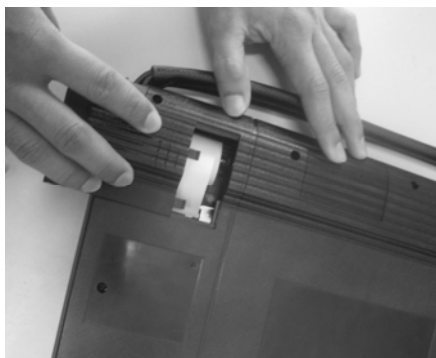

Figure 1-05e.
MINIPRINTER uses heat sensitive paper with size of $\Phi 30 \times 57\text{mm}$ (internal hole $\Phi 7\text{mm}$). Refer to Figure 1-05a to Figure 1-05e for mounting the paper.
5. Push down the pressing rod, mount the side plate, attach the paper lid and then put it back. See Figure 1-05e.